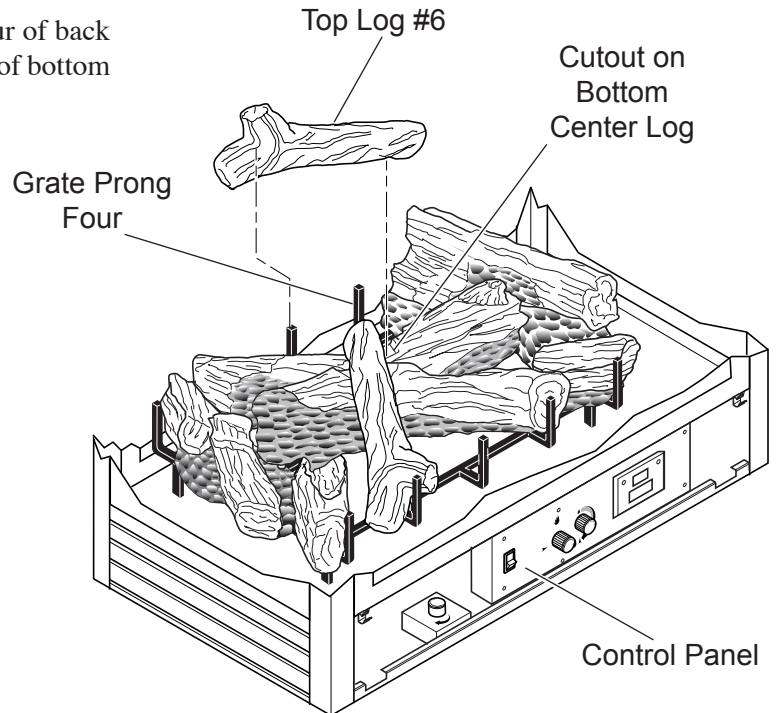

Figure 49 - Installing Top Log (#6)
- Place Y-Shaped end of top log (#6) on on prong four of back of grate. Position other end of top log (#6) in cutout of bottom center log (#3). See Figure 49.